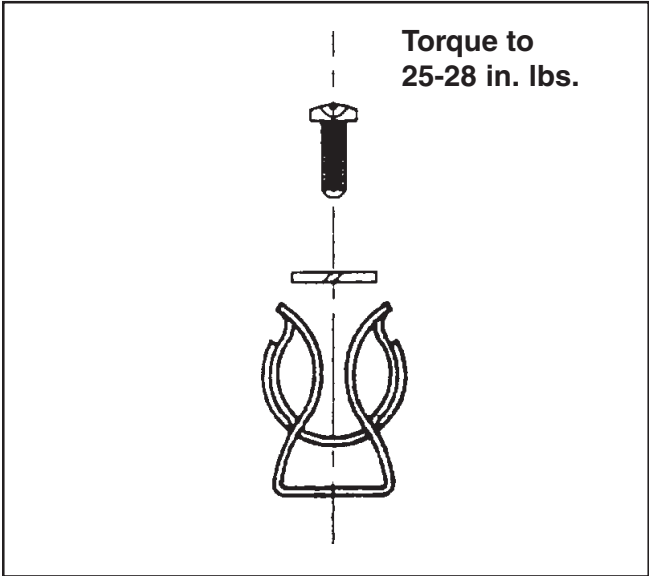

Fig. 4
10. Using 5/32" or no. 21 drill, drill two holes and tap #10-32 for 10-32 x 1/2 machine screws or drill (2) .173 dia. holes for 10-32 x 1/2 tri-lobe mounting screws provided with fuse block kit. Align the fuse block parallel to the bottom of the disconnect switch before tightening screws. Torque all mounting screws to 25-28 in. lbs.
11. Using Figure 4, install the fuse clips provided, on the disconnect device with #10-32 x 5/16 long panhead machine screws and torque screws to 25-28 in. lbs.